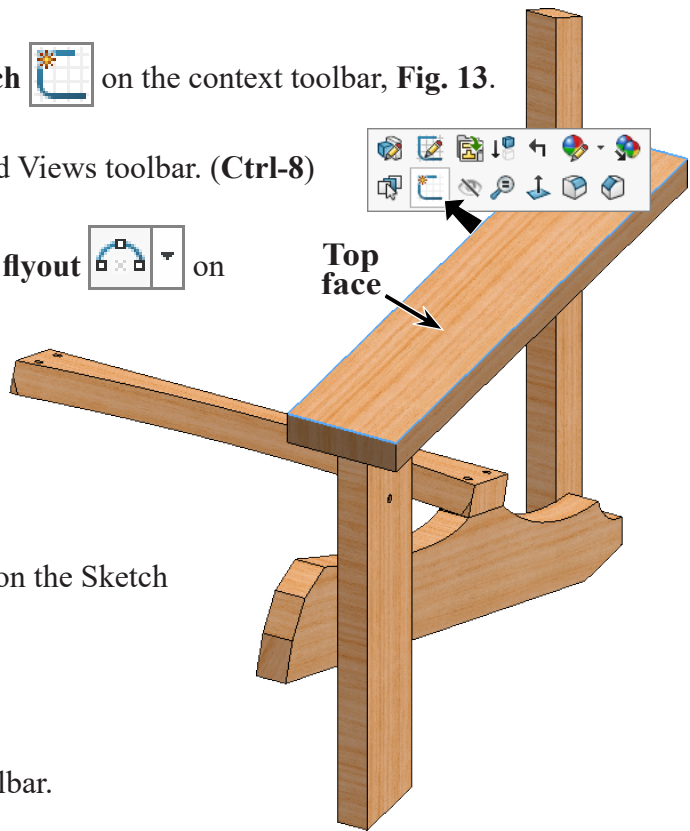
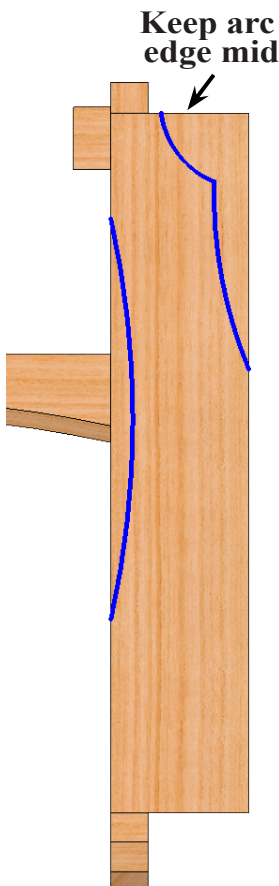

Fig. 13
Fig. 14
Step 1. Click **top face** of **Arm** and click **Sketch**  on the context toolbar, **Fig. 13**.
Step 3. Click **3 Point Arc**  (S) in the **Arc flyout**  on the Sketch toolbar.
Step 4. Sketch **three 3 Point Arcs**, **Fig. 14**.